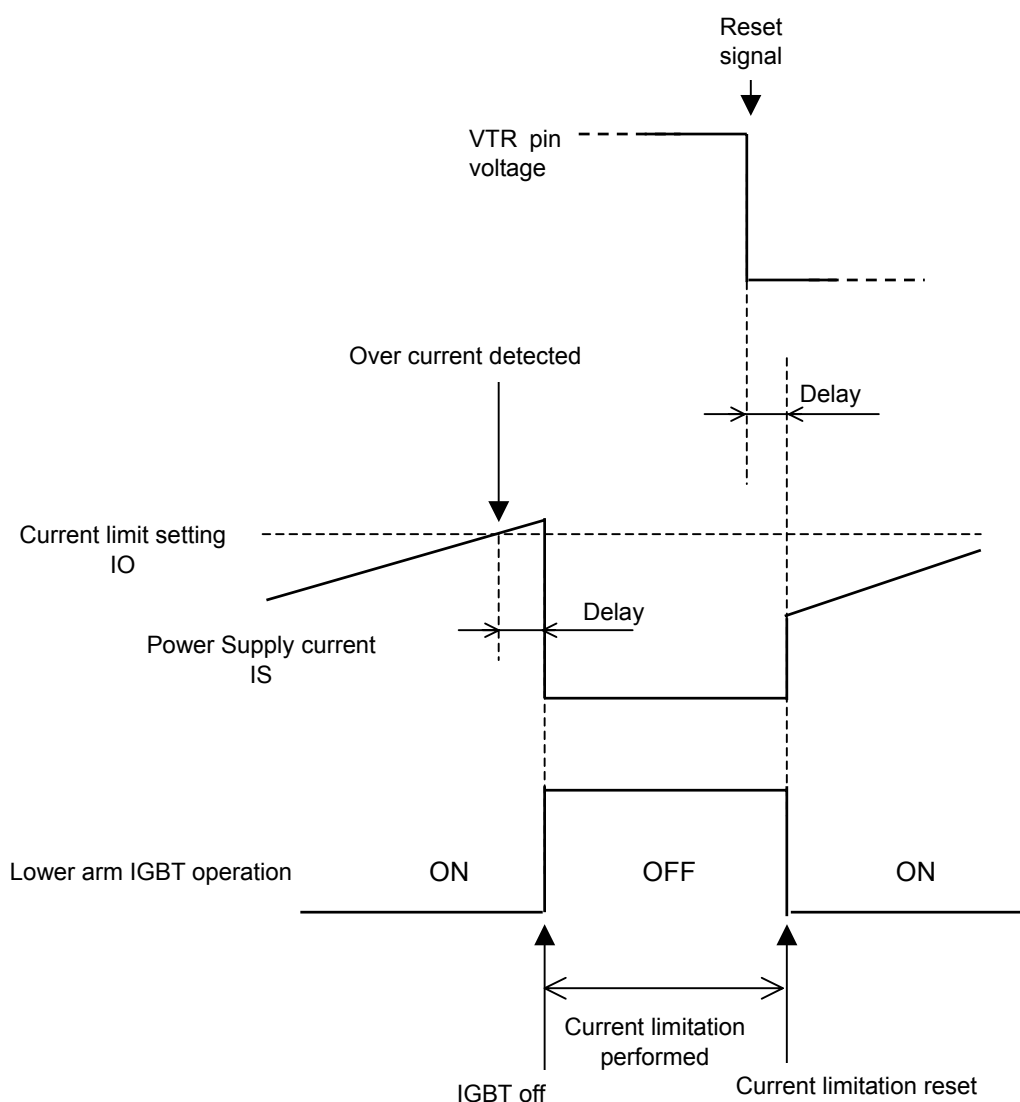

Fig. 5-3. Timing chart for current limitation
- Reset after current limitation is performed in each cycle of the internal clock signal (VTR pin voltage). (See Fig.5-3.)